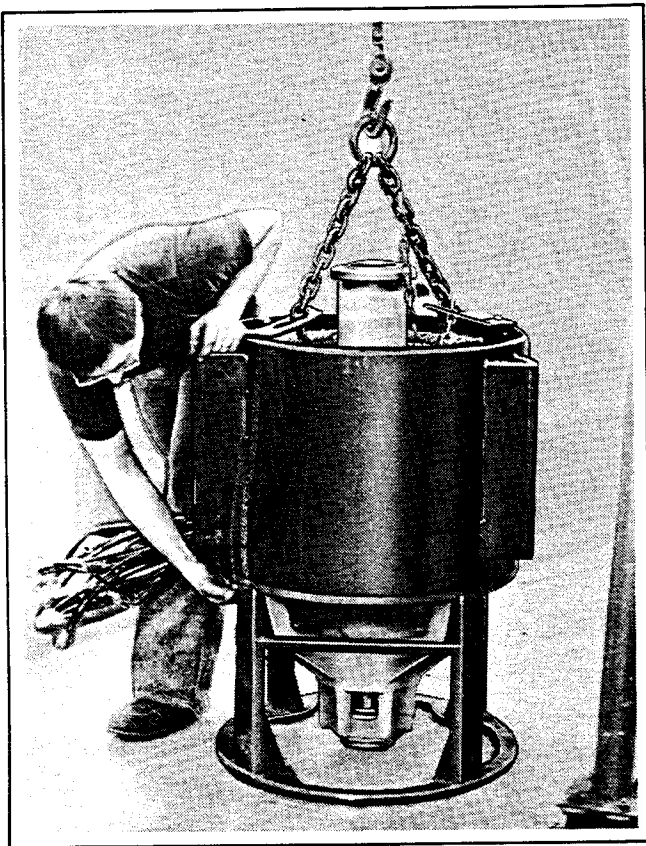

Figure 5-12. Positioning Stator
5. Lower stator to within 1/2 to 1/4 in. (12.7-6.4 mm) of end bracket. Turn stator to position, and start bolts to hold end bracket to stator. Lower stator onto end bracket and tighten bolts. See Figure 5-12.